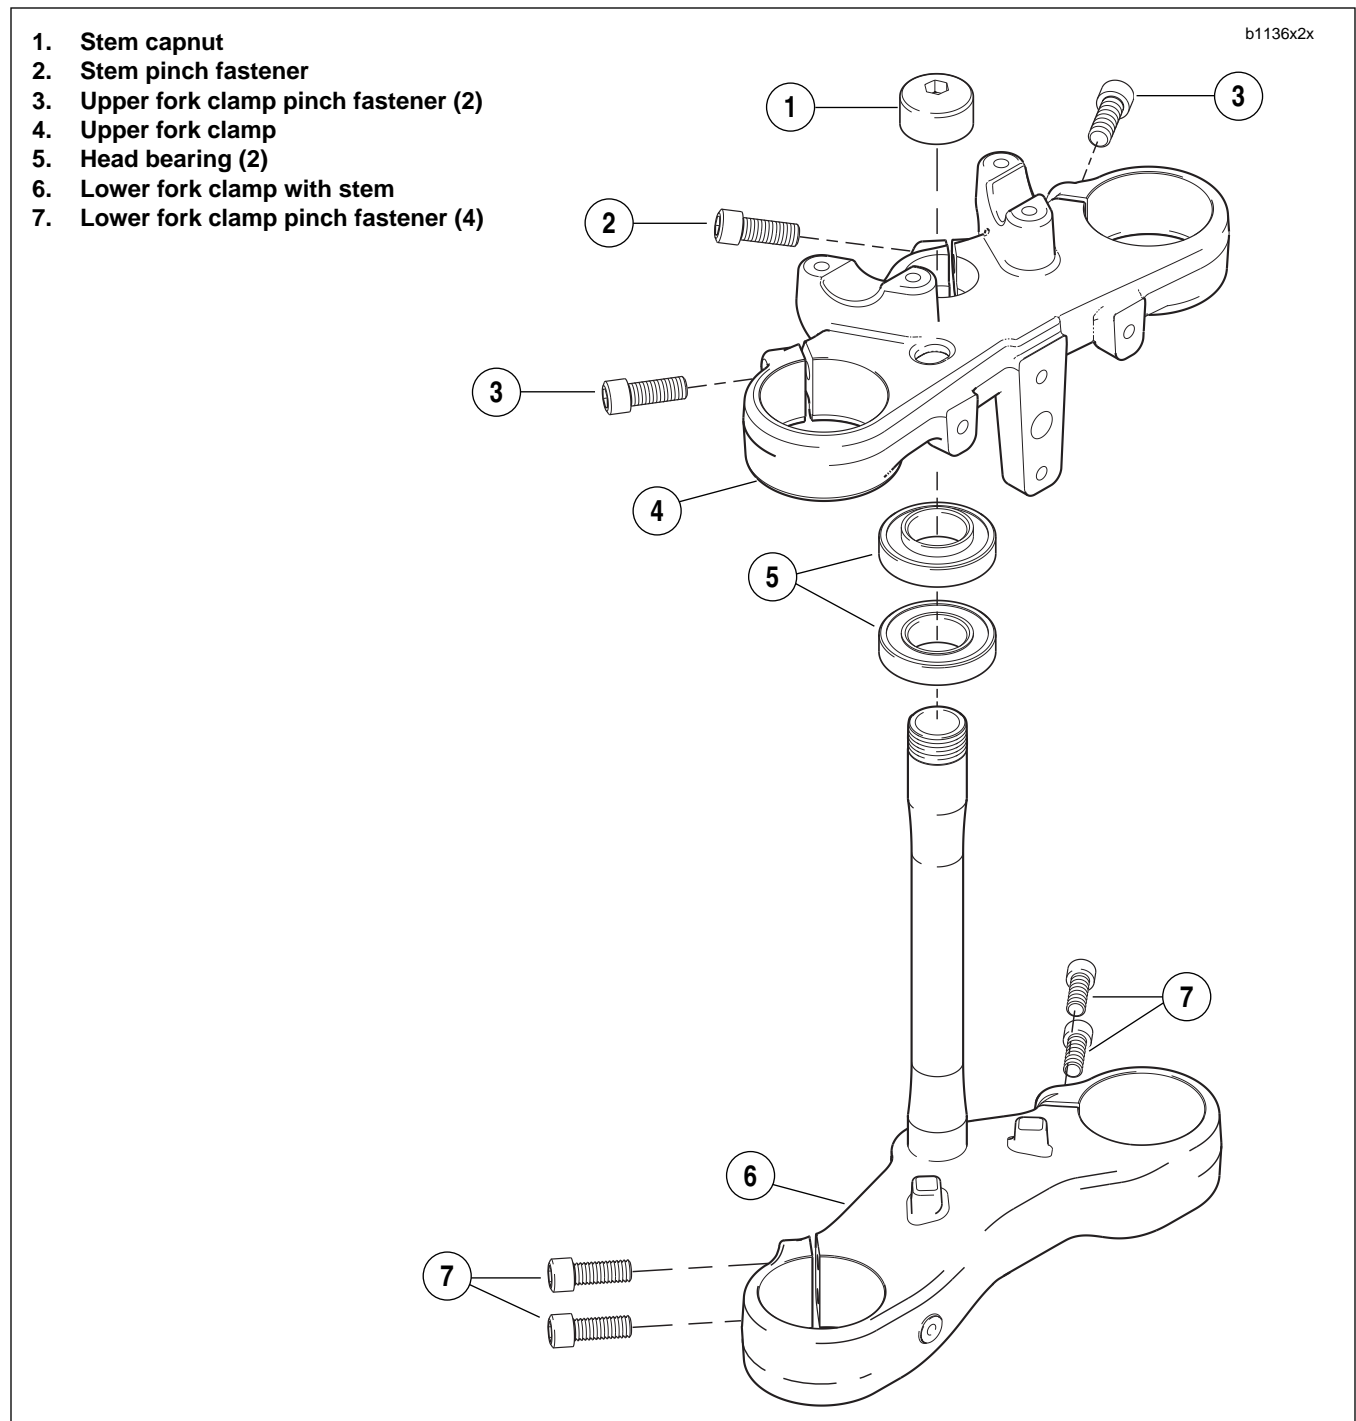

Figure 2-76. Steering Stem Assembly
5. See Figure 2-76. Remove steering stem pinch fastener (2).
6. See Figure 2-76. Hold or brace the lower fork clamp and remove steering stem capnut (1).
7. Remove the upper fork clamp (4).
8. Remove the lower fork clamp (6).
1. See Figure 2-76. Install the lower fork clamp (6) into the steering stem bore and install the upper fork clamp (4).
2. Install steering stem capnut (1). Tighten but do not torque.
- a. See Figure 2-76. Loosen steering stem pinch fastener (2) and upper and lower fork clamp pinch fasteners (3, 7).
- b. Brace wheel while removing steering stem capnut fastener (1).
- c. Remove upper fork clamp (4) and front-end assembly which includes front wheel, steering stem/lower fork clamp.
5. Remove upper and lower steering head bearings (5).